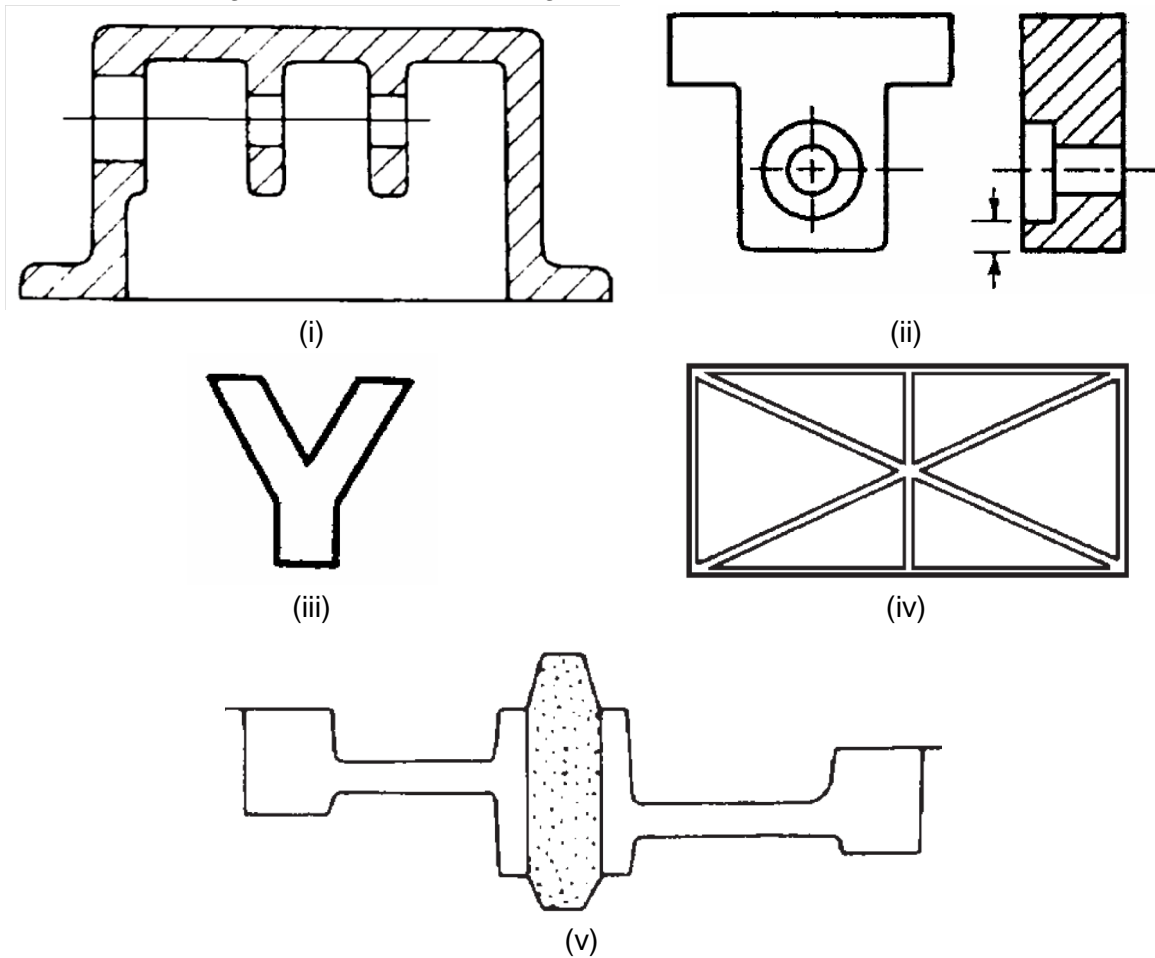

Figure 4
1. Suggest and justify the suitable modifications on the design of the following components as shown in figure 4 for ease of casting.